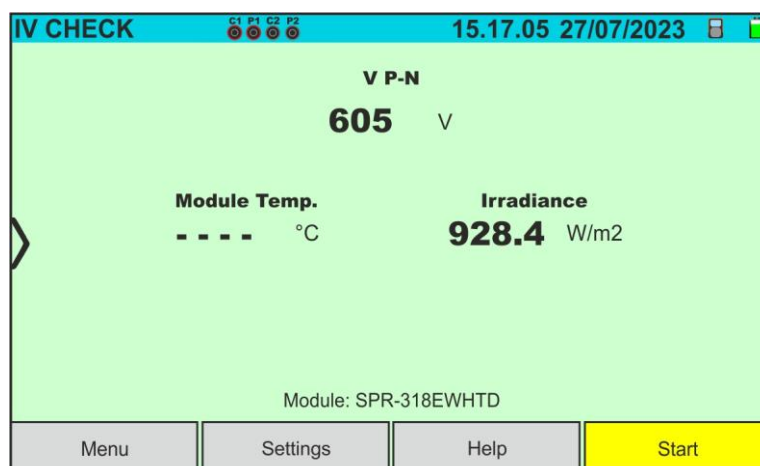

Fig. 54: Initial IVCK test screen without remote unit on Monofacial modules
4. In the case of **Monofacial** modules, the Fig. 54 screen is present on the display. The following parameters are shown: